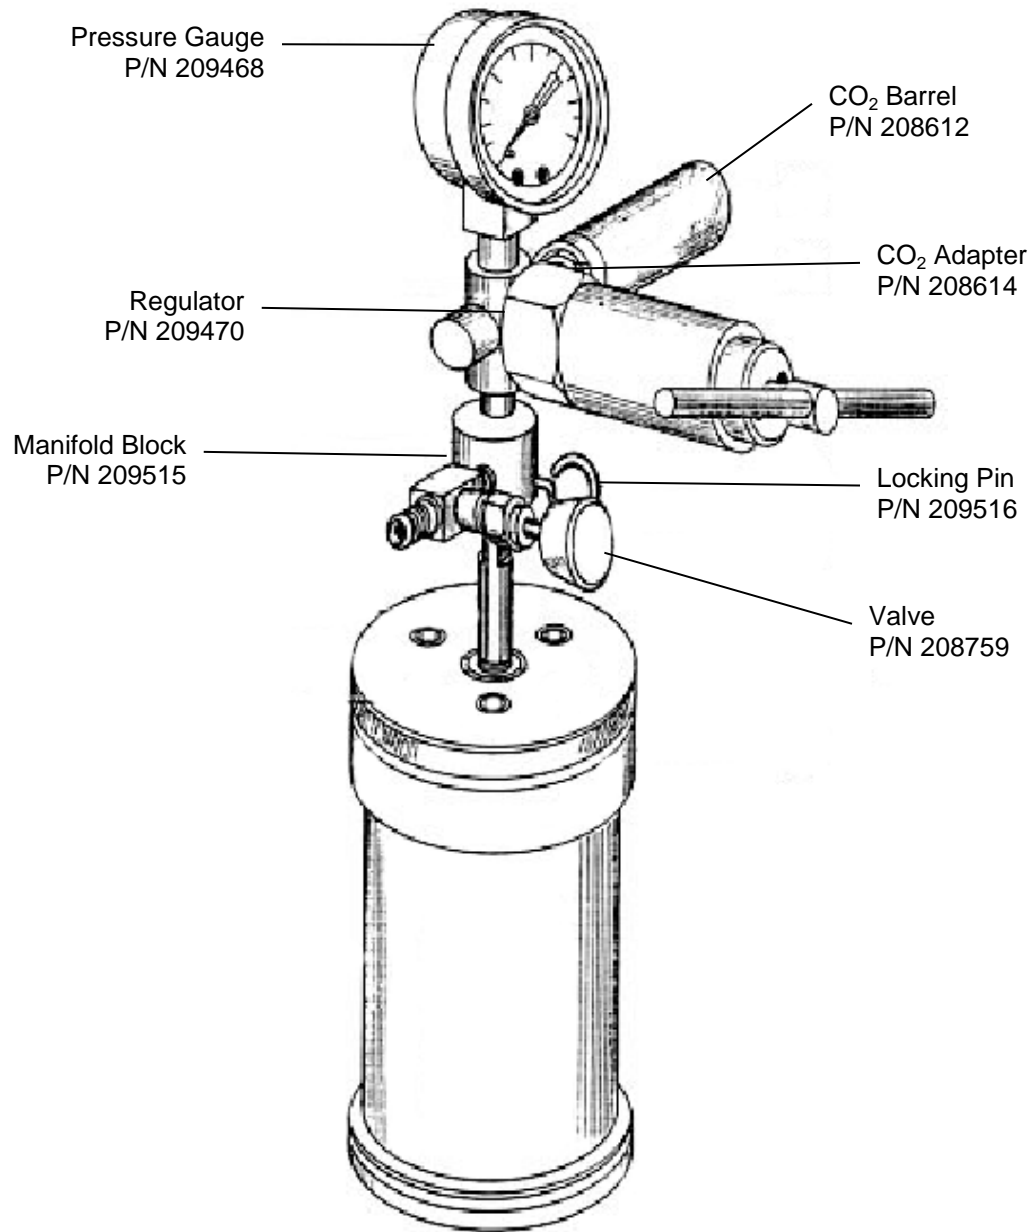
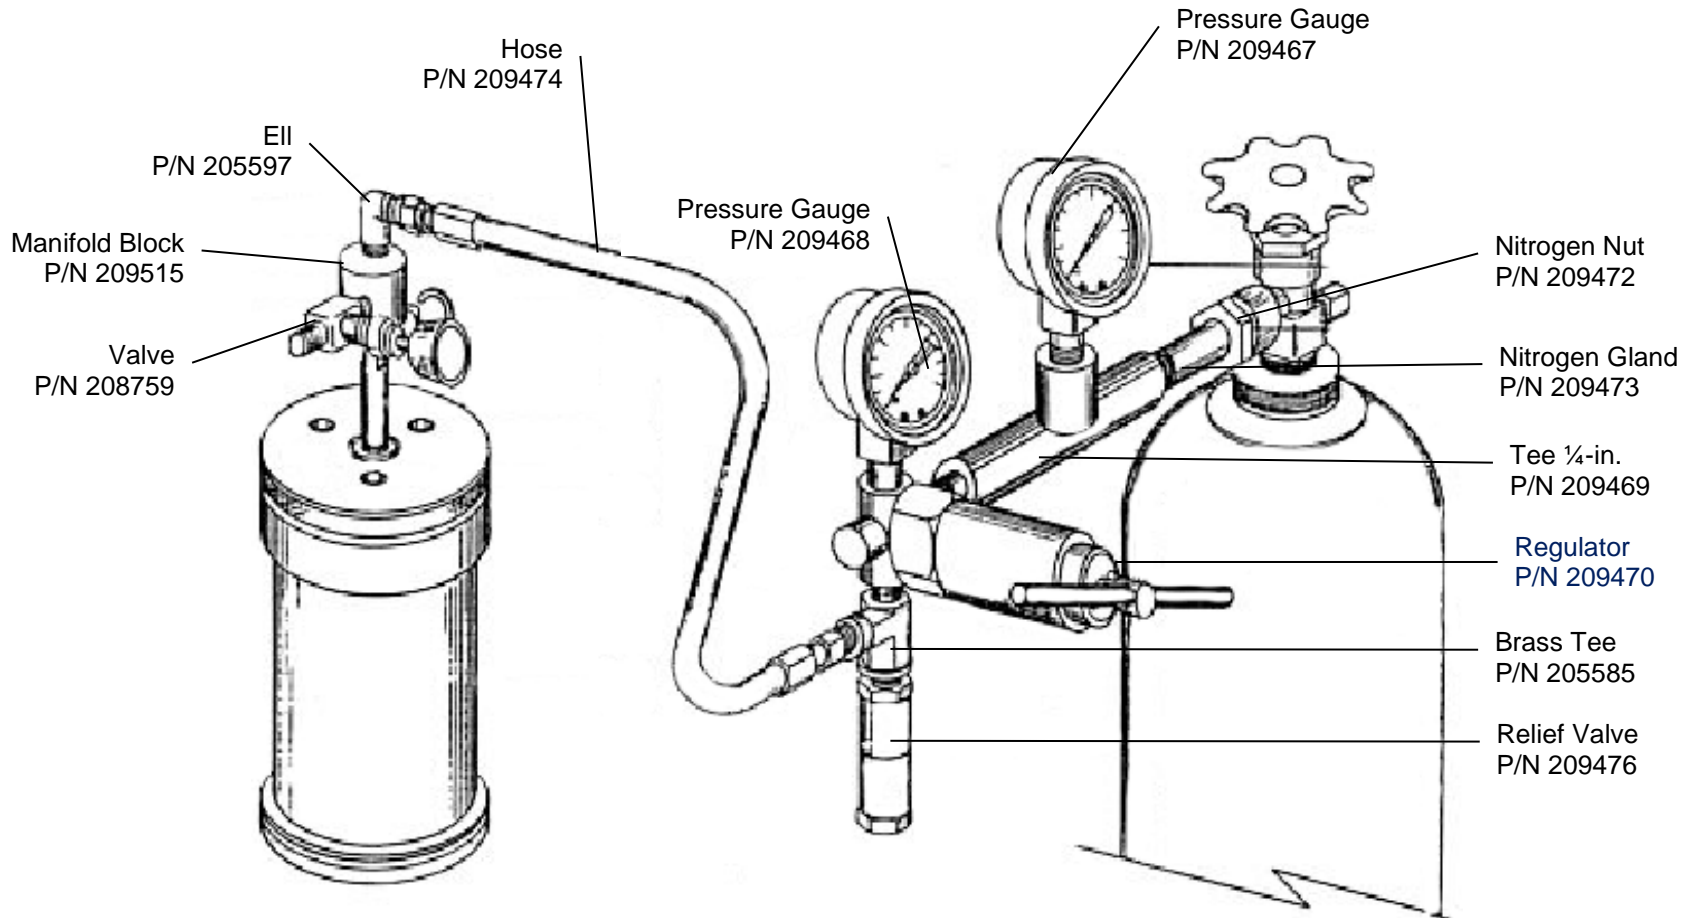

Figure 5-2 Carbon Dioxide Pressurizing Manifold
Figure 5-3 Nitrogen Cell Pressurizing Manifold
Pressuring manifolds are shown in Figure 5-2 Carbon Dioxide and Figure 5-3 Nitrogen.
7. Attach the pressurizing assembly— carbon, nitrogen, or air. Apply the pressure that will prevent vaporization (Table 3-2). See Figure 5-2 and Figure 5-3.
The carbon dioxide manifold for the HPHT filter press is usually used for pressuring aging cells (Figure 5-2). Its manifold block (adapter) fits onto the valve stem.